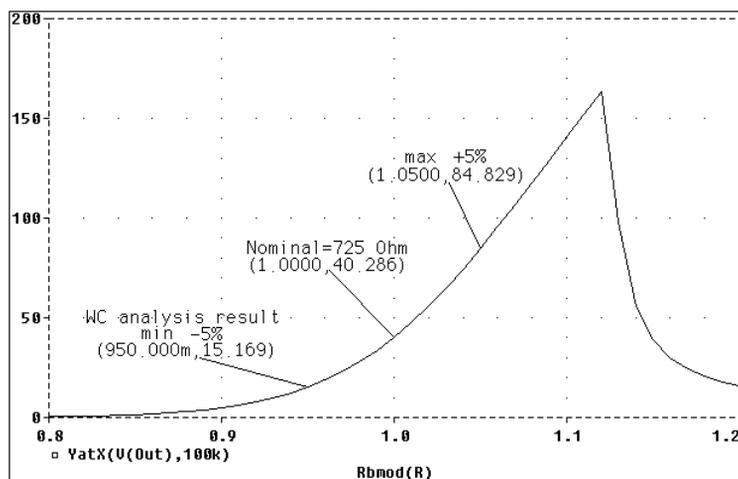
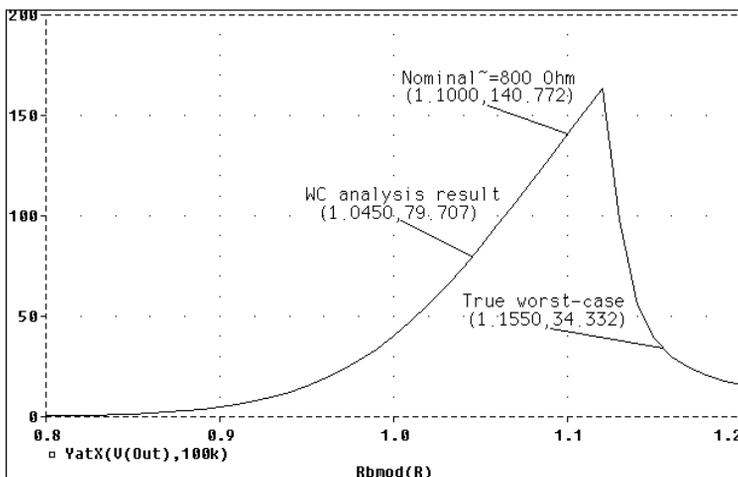

Figure 88 *Correct worst-case results.*
Figure 89 *Incorrect worst-case results.*
output is not monotonic with a variable parameter (see Figure 88 and Figure 89)
For demonstration, the parametric analysis is run first, generating the curve shown in Figure 88 and Figure 89. This curve, derived using the YatX goal function shown in Figure 87 illustrates the non-monotonic dependence of gain on *Rb2*.
The first .MODEL statement leaves the nominal value of *Rb2* at 720 ohms. The sensitivity analysis increments R by a small amount and checks its effect on Vm([OUT]). This slight increase in R causes an increase in the base bias voltage of the BJT, and increases the amplifier's gain, Vm([OUT]). The worst-case analysis correctly sets R to its minimum value for the lowest possible Vm([OUT]) (see Figure 88).
**Note** *The YatX goal function is used on the simulation results for the parametric sweep (.STEP) defined in Figure 86. The resulting curves are shown in Figure 88 and Figure 89.*
The second .MODEL statement scales the nominal value of  $Rb2$  by 1.1 to approximately 800 ohms. The gain still increases with a small increase in  $R$ , but a larger increase in  $R$  increases the base voltage so much that it drives the BJT into saturation and nearly eliminates the gain. The worst-case analysis is fooled by the sensitivity analysis into assuming that  $Rb2$  must be minimized to degrade the gain, but maximizing  $Rb2$  is much worse (see Figure 89). Note that even an optimizer, which checks the local gradients to determine how the parameters should be varied, is fooled by this circuit.